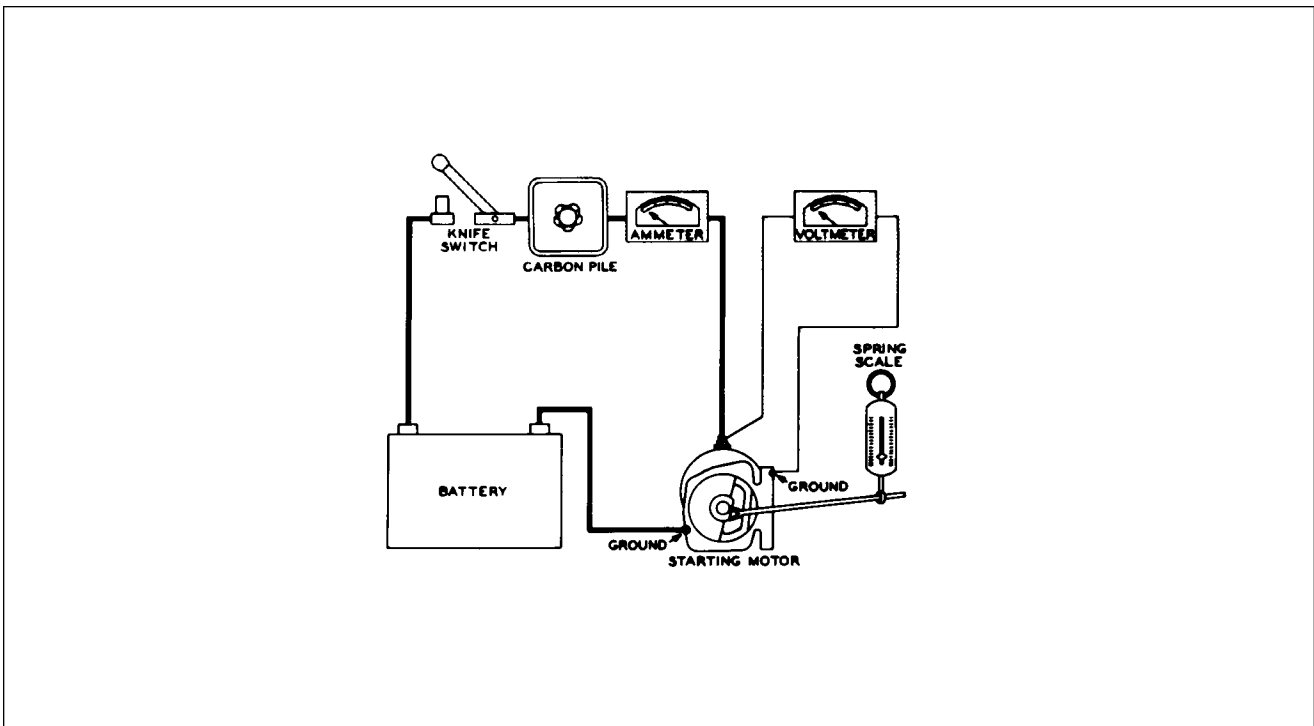

Figure 80-6. Stall - Torque Hookup
2. If no difficulty is indicated in the above test, a stall torque test may be made to see if the starting motor is producing its rated cranking power. Make test connections as shown in Figure 80-6.